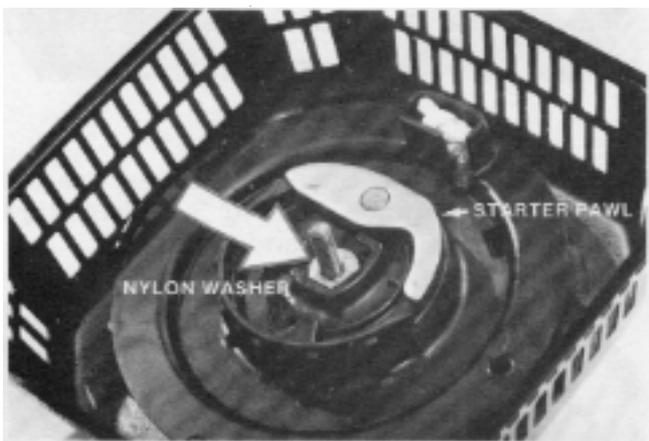

Figure 3-34
- Remove the nylon washer that is installed under the spacer and spring. See Fig. 3-34. Lift the starter pawl off at this time.
2. Install the nylon washer, starter pawl and spacer. See Figs. 3-34, 3-33.